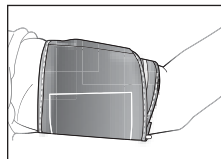

Fig. 6
5. The cuff should fit comfortably, yet snugly around your arm, Fig 6. You should be able to insert one finger easily between your arm and the cuff.